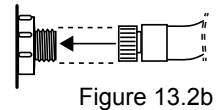

Figure 13.2b
3. Attach a garden hose to the exposed threads, Figure 13.2b.